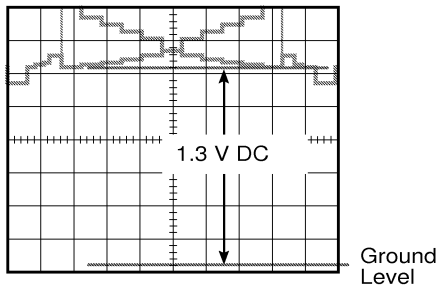

Fig. 4-1
- Set the Lens Iris so that the peak level of the Gray Scale from the Blanking level becomes 200 mVp-p as shown in Fig. 4-1.
- Adjust R327 so that the DC Voltage at E303 becomes 1.3 V DC as shown in Fig. 4-1.
- Adjust R127 so that the DC Voltage at E103 becomes 1.3 V DC as shown in Fig. 4-1.
- Adjust R527 so that the DC Voltage at E503 becomes 1.3 V DC as shown in Fig. 4-1.